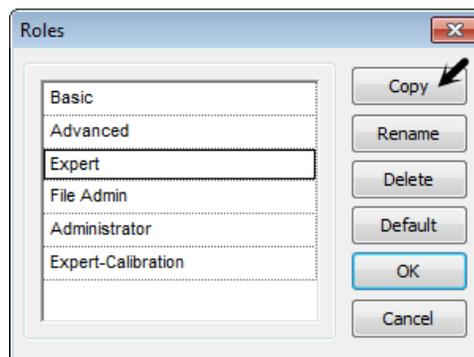

Figure 58: Default role selections
2. Select the role to use as a basis for the new role being created (Figure 58).